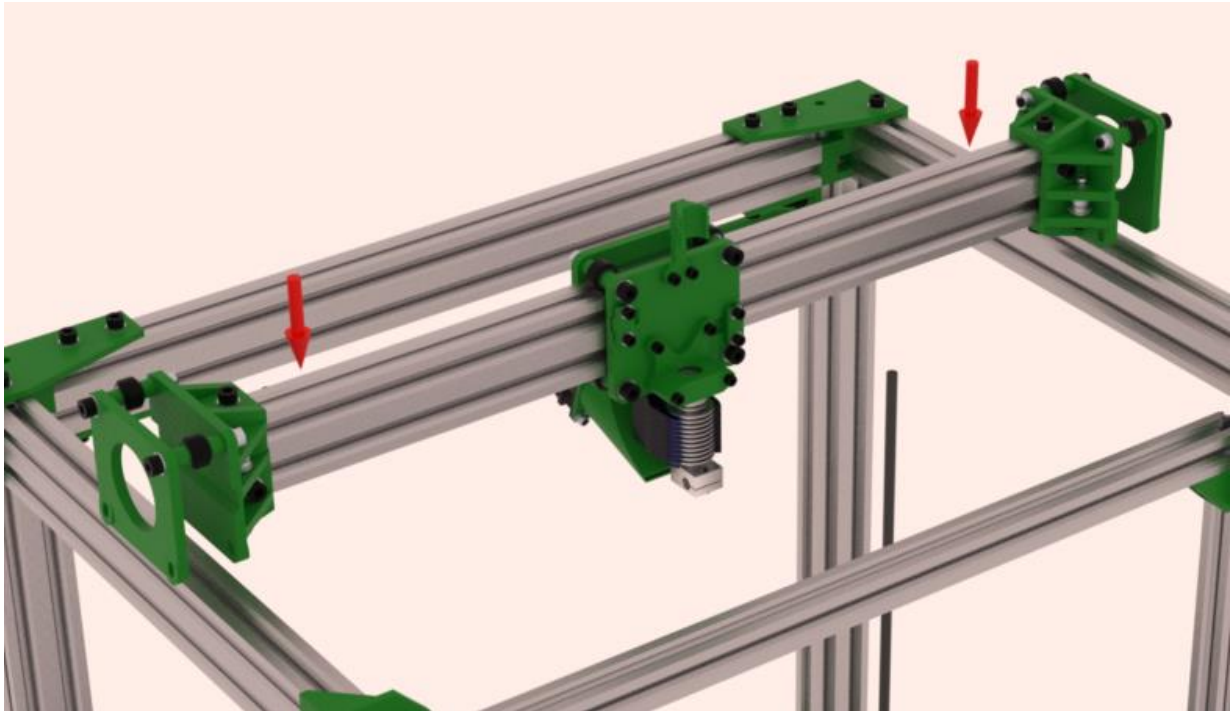

Figure 49: XY Gantry installation into frame
- Install the XY gantry into the frame as shown in Figure 49.